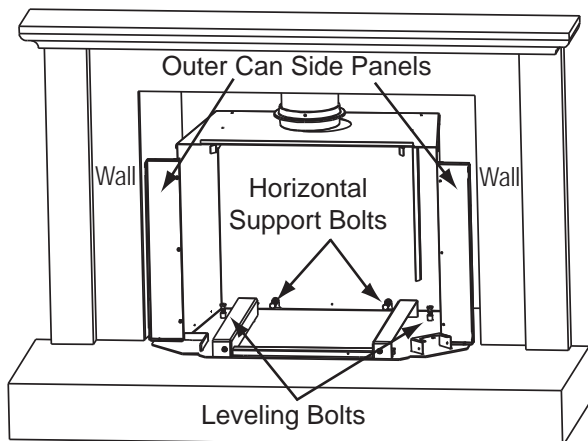
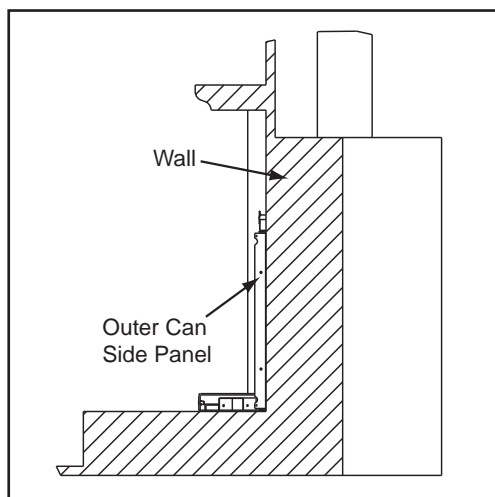

Figure 40.1
Figure 40.2
1. Align the back of surface of outer can side panels to the front wall surface for proper placement. **Figure 40.2.** Use the leveling bolts to level the outer can. **Figure 40.1.**
2. Re-install the timer assembly. The timer arm must be between the first and second control arm tabs. **Figure 40.2.**